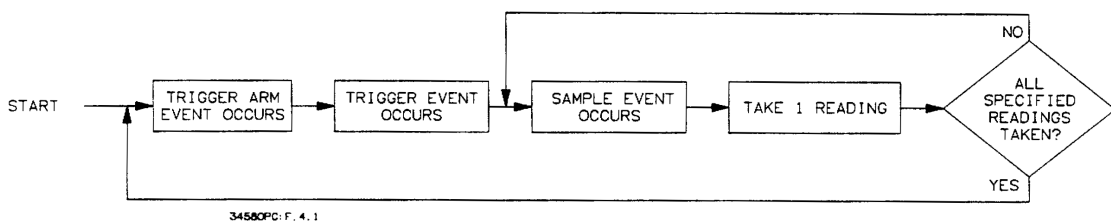

Figure 4-1 Triggering hierarchy
Before the multimeter will take readings, three separate events must occur in the proper order. These events are (1) the trigger arm event, (2) the trigger event, and (3) the sample event. Sub-sampling (discussed in Chapter 5) and multiple trigger arming (discussed in this chapter) are the only exceptions to this triggering hierarchy. As shown in Figure 4-1, when all three events have occurred in the order listed, the multimeter begins to make the specified reading(s). In the power-on state, the multimeter is configured so that it makes readings automatically; that is, all three events are set to AUTO. For most applications, you will need to use only one or two of these events and leave the other event(s) set to AUTO. This section describes the various events that can be used to satisfy the trigger arm, trigger, and sample event requirements and contains examples showing how to use these events.